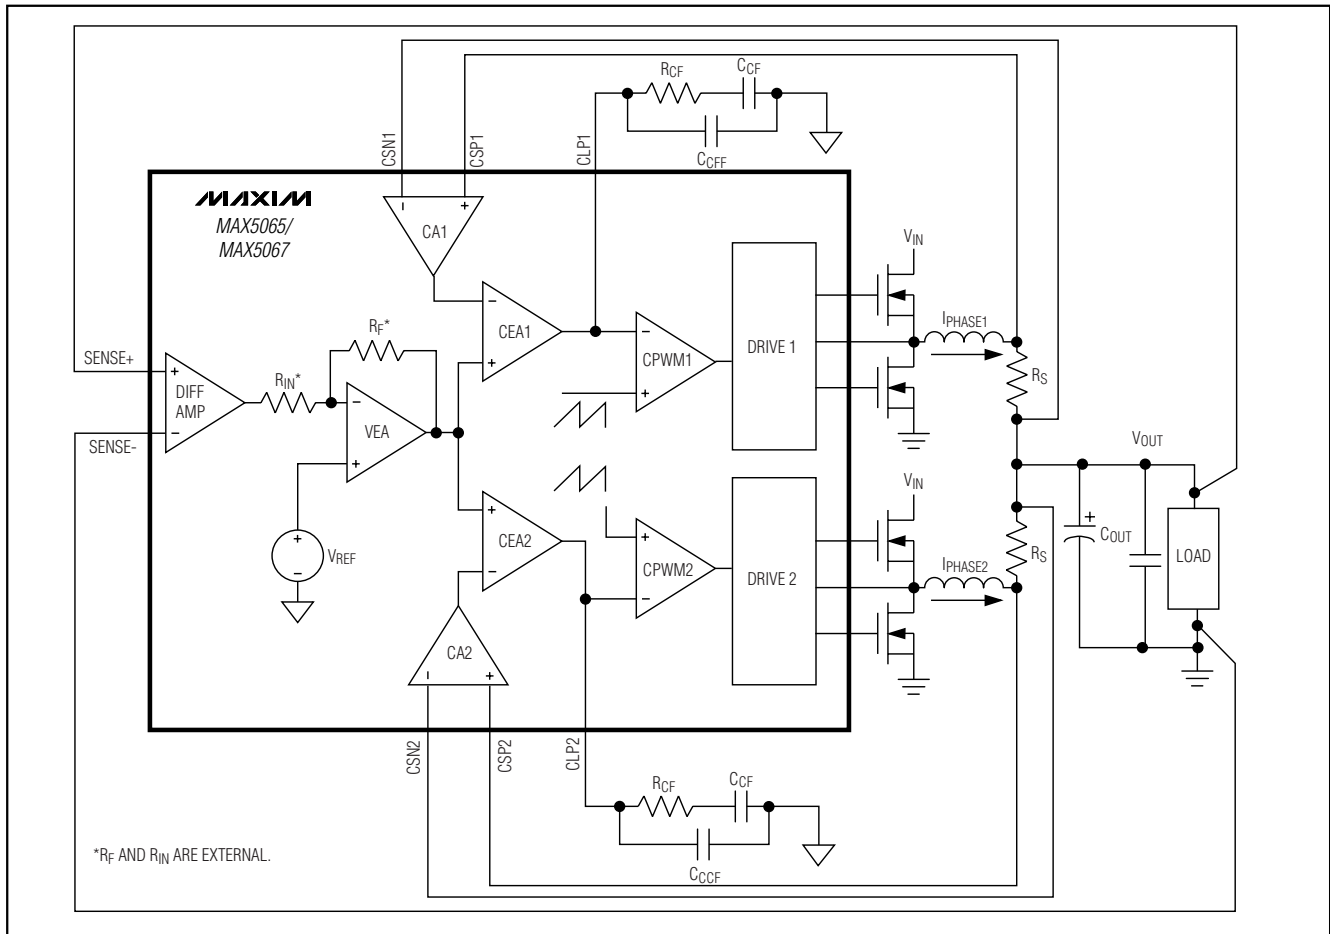

Figure 4. MAX5065/MAX5067 Control Loop
The MAX5065/MAX5067 use an average-current-mode control scheme to regulate the output voltage (Figure 4). The main control loop consists of an inner current loop and an outer voltage loop. The inner loop controls the output currents ( $I_{PHASE1}$  and  $I_{PHASE2}$ ) while the outer loop controls the output voltage. The inner current loop absorbs the inductor pole reducing the order of the outer voltage loop to that of a single-pole system.
The outer voltage control loop consists of the differential amplifier (DIFF AMP), reference voltage, and VEA. The unity-gain differential amplifier provides true differential remote sensing of the output voltage. The differential amplifier output connects to the inverting input (EAN) of the VEA. The noninverting input of the VEA is internally connected to an internal precision reference voltage. The MAX5067 reference voltage is set to +0.8V and the MAX5065 reference is set to +0.6V. The VEA controls the two inner current loops (Figure 4). Use a resistive feedback network to set the VEA gain as required by the adaptive voltage-positioning circuit (see the *Adaptive Voltage Positioning* section).
Each phase of the MAX5065/MAX5067 has a dedicated transconductance current-error amplifier (CEA\_) with a typical  $g_m$  of 550 $\mu$ S and 320 $\mu$ A output sink and source current capability. The current-error amplifier outputs, CLP1 and CLP2, serve as the inverting input to the PWM comparator. CLP1 and CLP2 are externally accessible to provide frequency compensation for the inner current loops (Figure 4). Compensate CEA\_ so the inductor current down slope, which becomes the
The differential amplifier (DIFF AMP) facilitates output voltage remote sensing at the load (Figure 4). It provides true differential output voltage sensing while rejecting the common-mode voltage errors due to high-current ground paths. Sensing the output voltage
The VEA output clamps to +0.9V relative to VCM (+0.6V), thus limiting the average maximum current from individual phases. The maximum average current-limit threshold for each phase is equal to the maximum clamp voltage of the VEA divided by the gain (18) of the current-sense amplifier. This results in accurate settings for the average maximum current for each phase. Set the VEA gain using RF and RIN for the amount of output voltage positioning required within the rated current range as discussed in the *Adaptive Voltage Positioning* section (Figure 4).
Average-current-mode control has the ability to limit the average current sourced by the converter during a fault condition. When a fault condition occurs, the VEA output clamps to +0.9V with respect to the common-mode voltage ( $V_{CM} = +0.6V$ ) and is compared with the output of the current-sense amplifiers (CA1 and CA2) (see Figure 4). The current-sense amplifier's gain of 18 limits the maximum current in the inductor or sense resistor to  $I_{LIMIT} = 50mV/R_S$ .